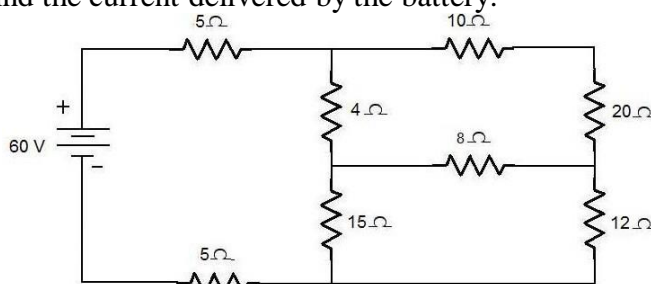

Fig.4
12. In the network shown in fig 4, find the current delivered by the battery.